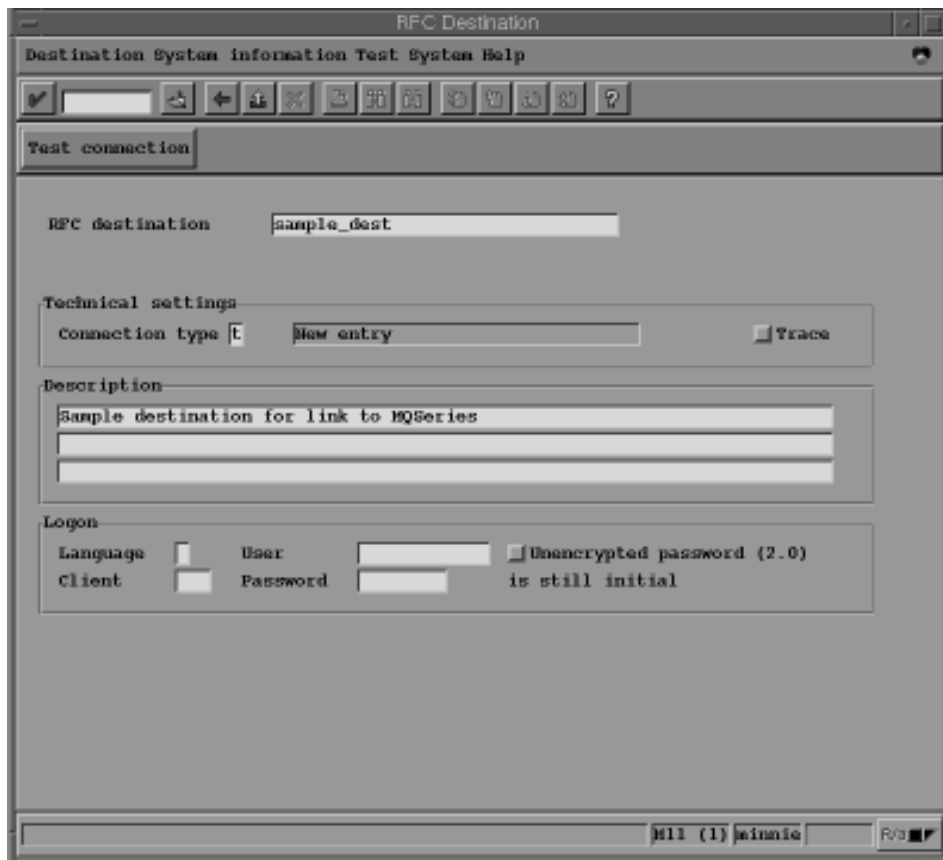

Figure 9. RFC Destination panel: specifying a destination and a connection type
2. Click on the Create button in this panel to display the panel shown in Figure 9 on page 23.
3. Complete the fields in the RFC destination panel (shown in Figure 9 on page 23) as follows: